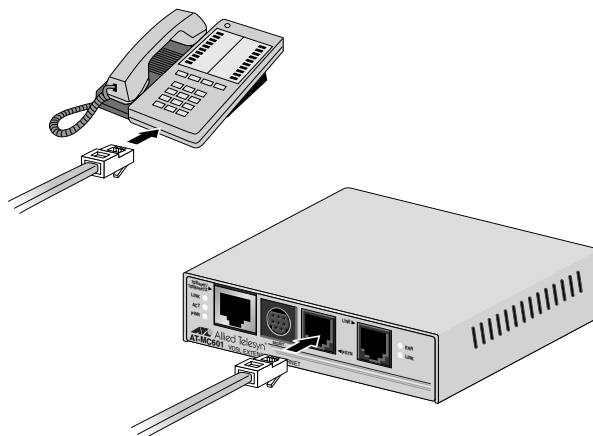

Figure 10 PSTN to Telephone
2. Then, connect a telephone line cable from the PSTN port to the telephone, as shown in Figure 10.